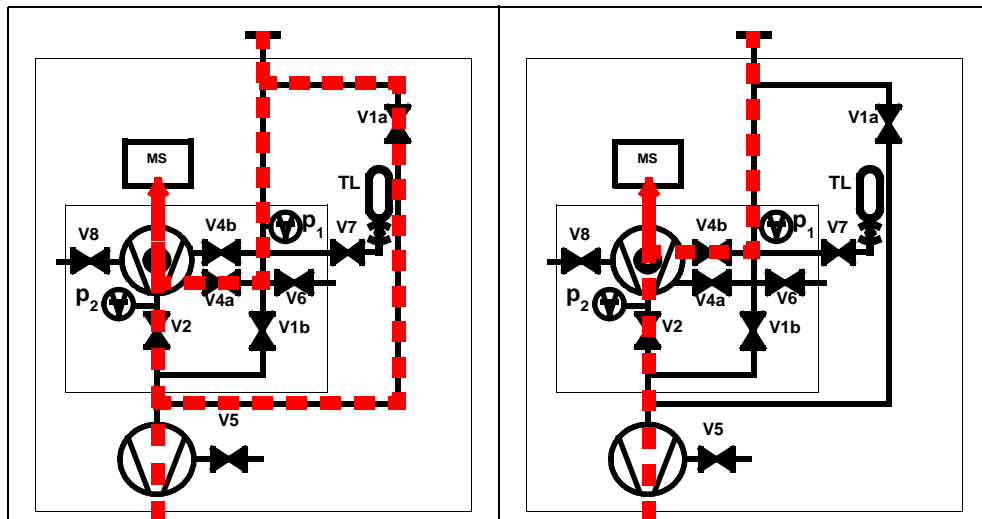

Fig. 4-7: left: FINE Mode, right: ULTRA Mode
*Tipp* A special set up of the UL1000 and UL1000 Fab stops the autoranging procedure as described above. With the mode *FINE ONLY* (Please refer to Chapter 6.3 Mode) the unit will stay in FINE Mode Fig. 4-7 (left) regardless the inlet pressure. The valve V1a is closed.